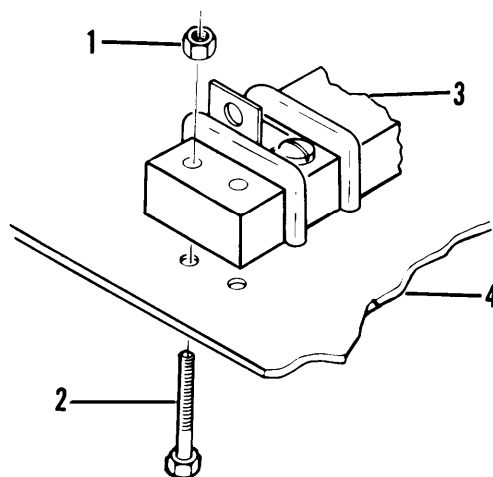

Figure 4-6. Terminal Board
- (2) Remove four nuts (1, fig. 4-6) and bolts (2).
(3) Remove terminal board (3) from nose box cover (4).
(4) Repeat steps 1 through 3 for other terminal board.
- (1) Install terminal board (3, fig. 4-6) to nose box cover (4).